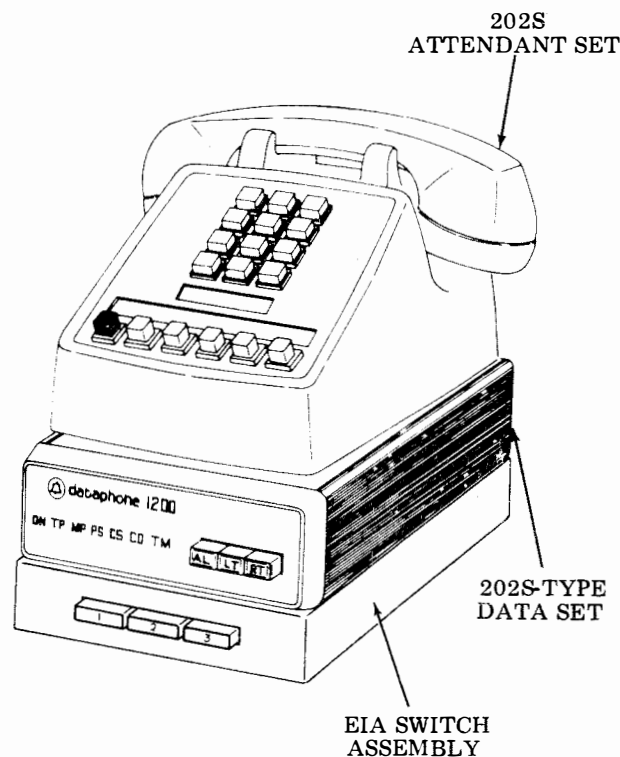

Figure 2 - Switch Assembly in Typical Installed Position
1.04 The switch is intended to fit under a 202S-Type Data Set, or may be mounted to the equipment in any applicable position desired (Figure 2).